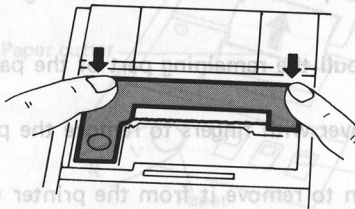

Fig. 3
- (5) Install the new cartridge ribbon as shown in Fig. 3. Make sure that the cartridge ribbon is securely in place.